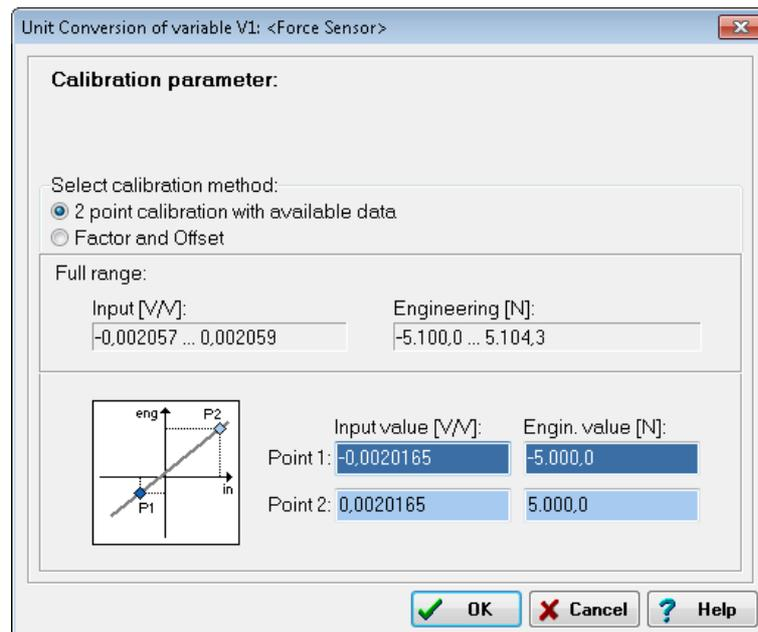

Fig. 7-2 Scaling dialog
3. Enter the transducer (sensor) data from the calibration certificate or from the data sheet (example: refer to Fig. 7-2 on page 118).